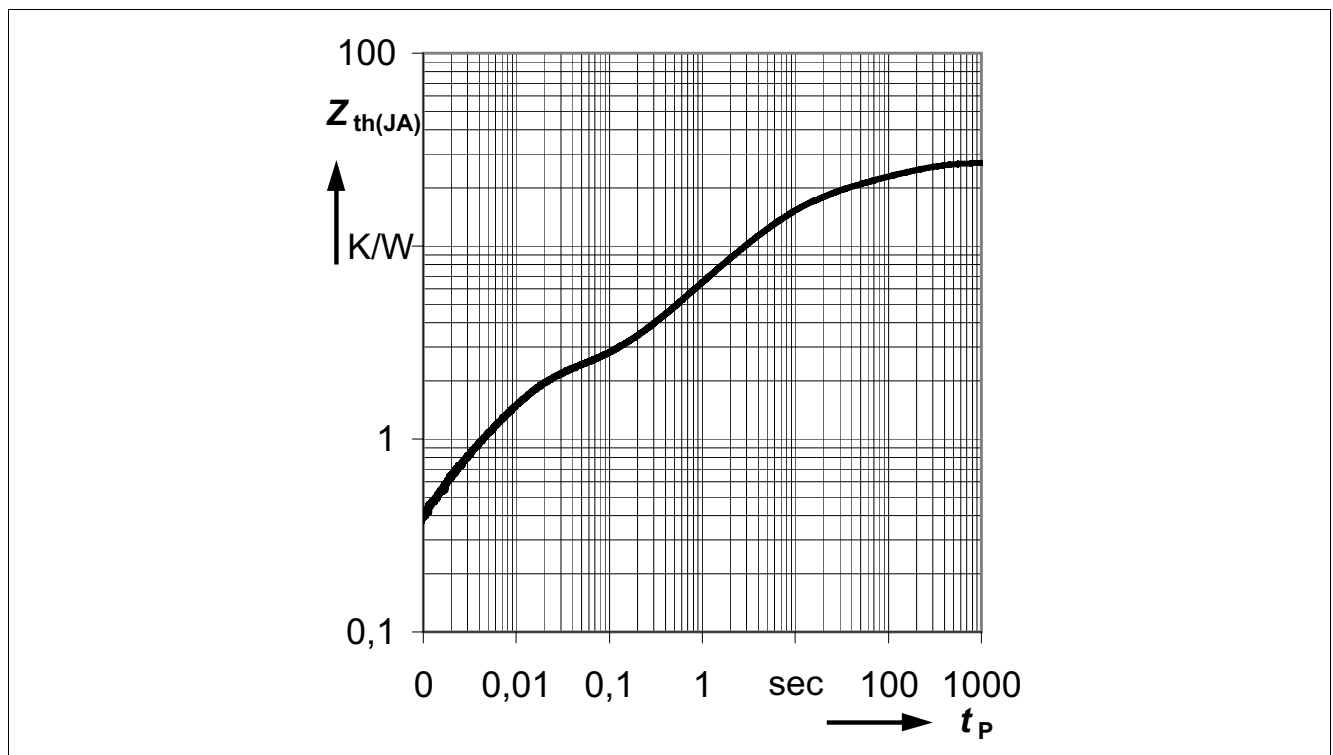

Figure 4 Transient Thermal Impedance $Z_{th(JA)} = f(t_p)$ ⁴⁾
4) Specified R_{thja} value and Figure 4 are according JESD51_7 at natural convection on FR4 2s2p board. The BTS50080-1EGA was measured on a 76.2 x 114.3 x 1.6 mm board with 2 inner copper layers (2 x 70µm Cu, 2 x 35µm Cu) applying power losses of 1.4W at the channel. According to JESD51-5 a thermal via array under the exposed pad contacted the first inner copper layer. $T_a = 25\text{ °C}$.
Figure 4 shows the typical transient thermal impedance of BTS50080-1EGA.